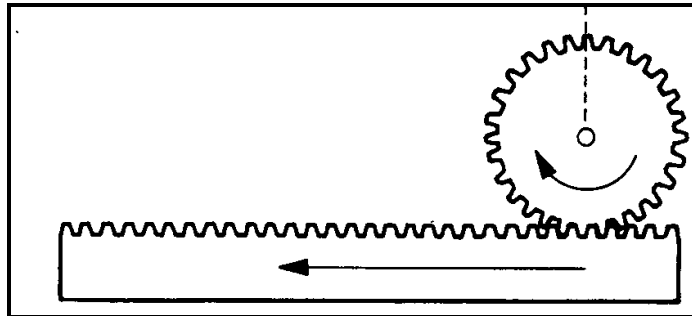

FIGURE 1.7
- 1.18 FIGURE 1.7 below shows a rack and pinion as used in the movement of the saddle of a lathe. Choose the correct statement from those given below if the pinion is the driver gear.